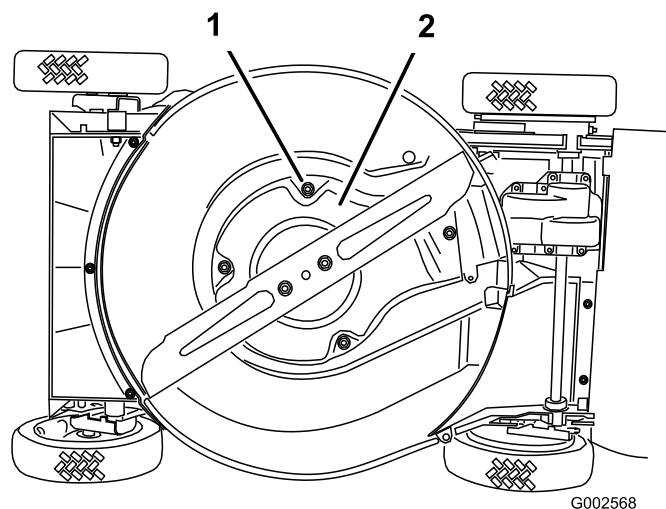

Figure 33
6. Remove the 4 screws that hold the shield in place (Figure 33)..